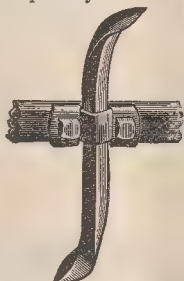

Fig. 87
**No. 2 "IRON AGE" Diamond Tooth Harrow.**—We also offer a modification of the above tool provided with 13 double ended teeth (see Fig. 87). This is in response to a call from those who do not care for the several adjustments, but who wish the economy of the double end. **Price, with Lever and Wheel, as in cut**